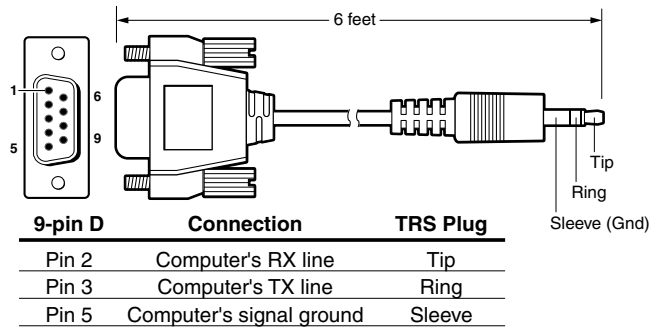

Figure 3-2 — Front 2.5 mm port configuration cable, part #70-335-01
View (▼) button — This button, when pressed and released, lights red and allows quick viewing of existing input and output ties on the LCD screen (see figure 3-2). When used in conjunction with the video and audio buttons (④), output buttons with no existing ties are lit.
- ⑨ **Configuration port** — This 2.5 mm port (jack) can be used to configure the ISM 824 during setup via RS-232, and has an independent protocol from the primary RS-232 port on the rear panel. Use the 2.5 mm configuration cable, part # 70-335-01 (see figure 3-2) for connection to your PC's serial port.